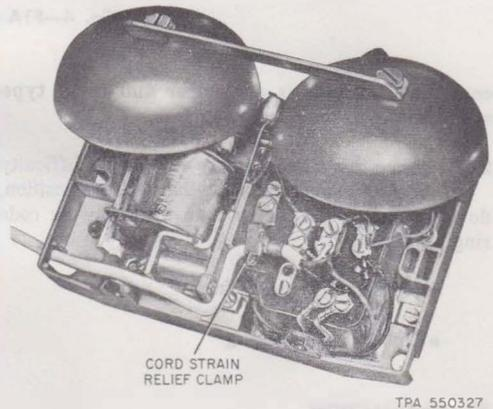
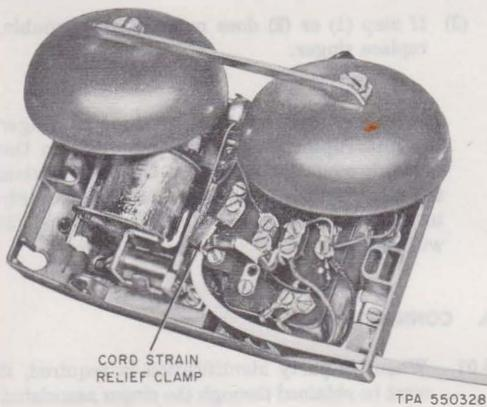

Fig. 7—Top View, Mounting Cord Entering from Left
Fig. 8—Top View, Mounting Cord Entering from Right
- Fig. 7 and 8
rewire network per Table C for the required service. Remove cord strain relief clamp from right side of ringer (gongs up) and relocate to terminal 7 of network. If mounting cord enters from left side of ringer (Fig. 7) place clamp on right side of terminal 3. If mounting cord enters from right side of ringer (Fig. 8) place clamp on left side of terminal 3.♦